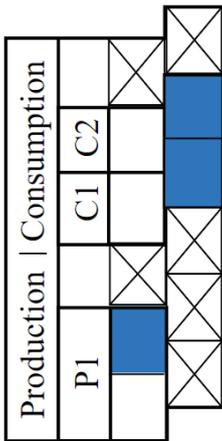

Figure 7: Terminal blocks in IQ Combiners (3,3-ES,4)
*Refer to Figure 7 for CT wiring for IQ Combiner 4/4C shipped with split-core CTs